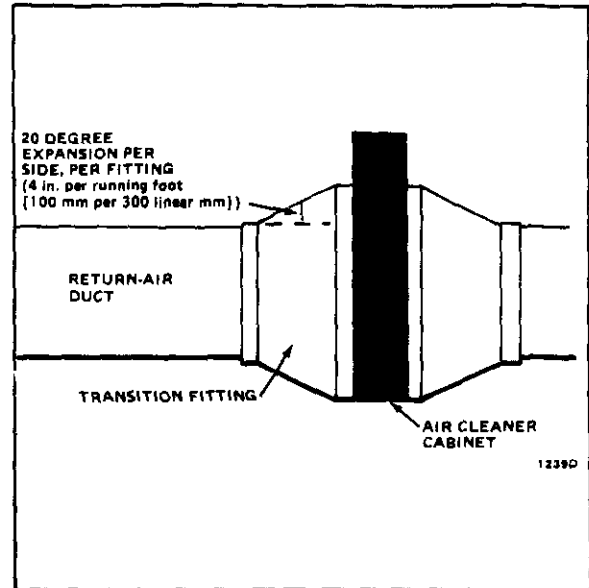

FIG. 12—CHANGE DUCT SIZE GRADUALLY TO MINIMIZE TURBULENCE.
- With proper transitions, if the activated carbon filter requires a different size duct than the air cleaner. Allow 20 degrees expansion per side, per fitting. See Fig. 12.
Transitions are needed when the duct is a different size than the air cleaner cabinet. Gradual transitions reduce air turbulence and increase efficiency. Limit expansion to 20 degrees (about 4 in. per running foot [100 mm per 300 linear mm] on each side of a transition fitting. See Fig. 12.
- Install a transition if the furnace and air cleaner openings are different sizes. See Fig. 12.
Install a transition if the opening in the air cleaner cabinet and the duct are different sizes. See Fig. 12.